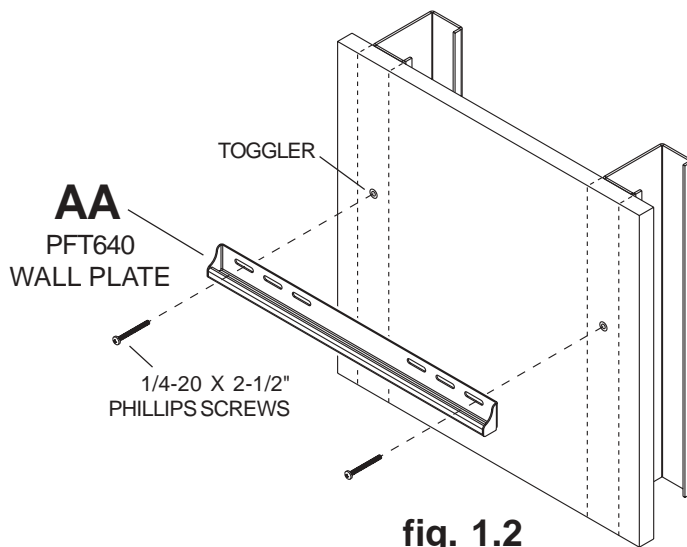

fig. 1.2
**Refer to instruction sheet included with Peerless accessory kit ACC 215 for metal studs to install togglers.** Loosely fasten mount assembly (AA) to wall using two 1/4-20 x 2-1/2" screws as shown in figure 1.2.